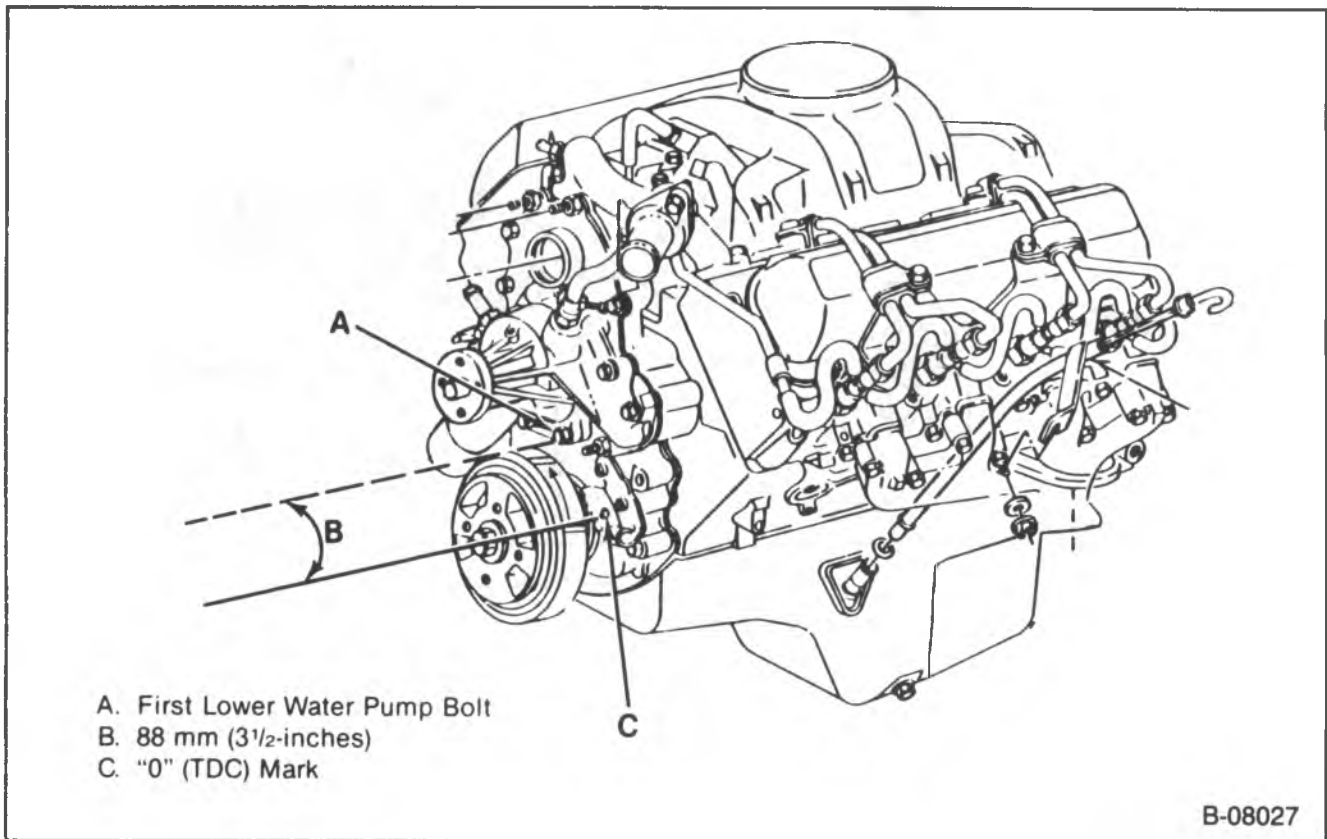

Figure 7 — Aligning the Timing Mark
- Rotate the engine counterclockwise 88 mm (3 1/2-inches), measured at the torsional damper. This measurement can be estimated by aligning the torsional damper mark with the first lower water pump bolt (figure 7). This procedure will position the engine so no valves are close to a piston crown.